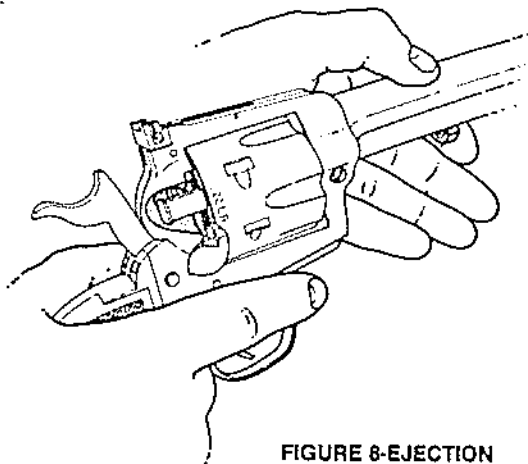

FIGURE 8-EJECTION
5. KEEPING FINGERS AWAY FROM TRIGGER, push ejector rod, (located under the barrel) backwards through cylinder chamber, forcing out the live round or empty case, which should be removed from revolver. Allow ejector rod to return forward under its spring action. See Figure 8.